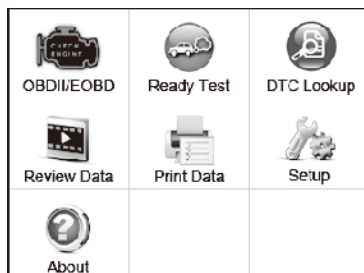

Figure 3.1
1. From **Main Screen (See Figure 3.1)**, use the **Up/Down** scroll button and **Left/Right** scroll button to select **DTC Lookup** and press the **OK** button.
From the **Main Screen (See Figure 3.1)** Use the **Up/Down** scroll button and **Left/Right** scroll button to select **Setup**, and press the **OK** button. Follow the instructions to make adjustments and settings as described in the above setup options.